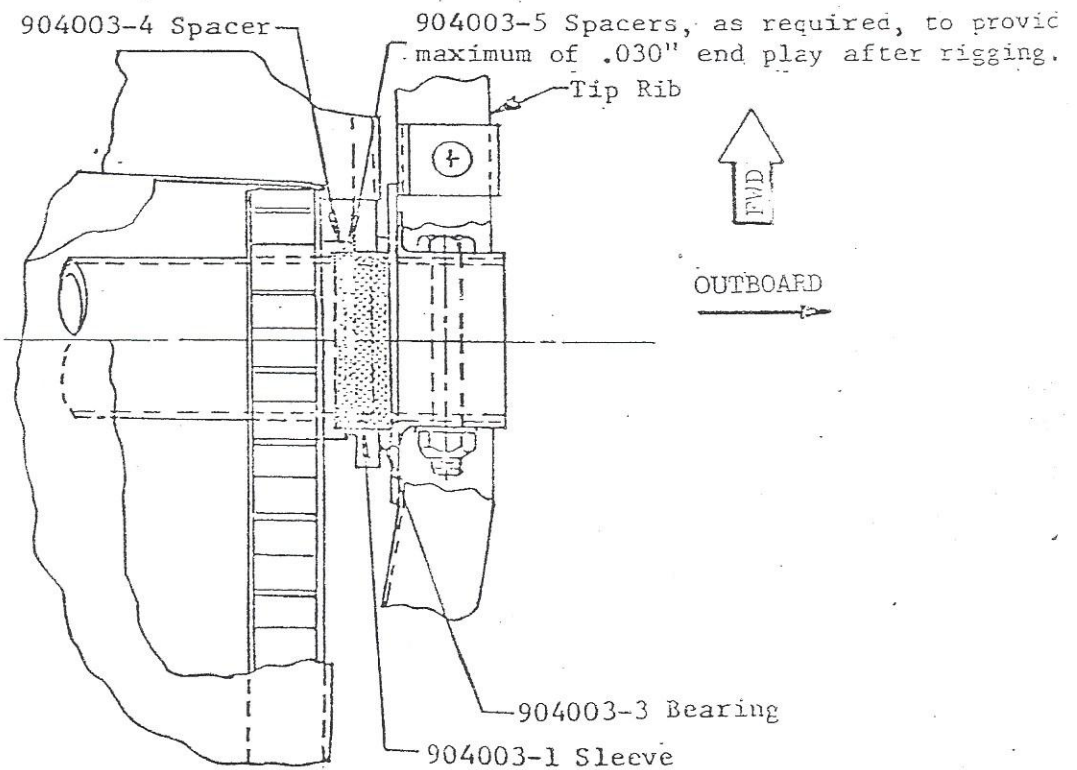

FIGURE 4. LH & RH ELEVATOR OUTBOARD BEARING REPAIR
12. Replace original spacers at outboard ends of elevators with 904003-4 spacers (1 on each outboard end with chamfered bore toward rib). Discard original spacers. See Figure 4.
15. Install elevators in reverse of removal procedure. Replace any original thin (.020" thick) spacers between outboard elevator spacer (904003-4) and support bearing with larger bore 904003-5 spacers supplied in Kit. Discard original spacers. Add 904003-5 spacers as required to maintain a maximum of .030" elevator end play. See Figure 4.